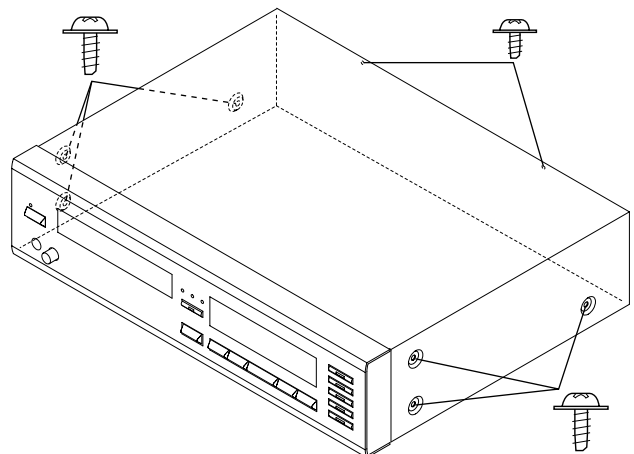

Fig. 2-2
2.1 Top Cover (Refer to Fig. 2-2)